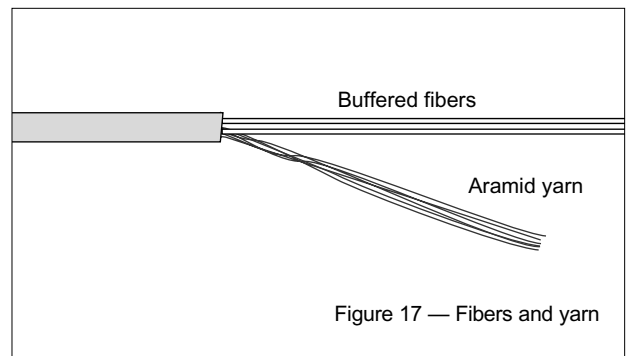

Figure 17 — Fibers and yarn
Step 5: Use scissors to cut the aramid yarn to the lengths recommended in the documentation for the product you are installing (Figure 17).